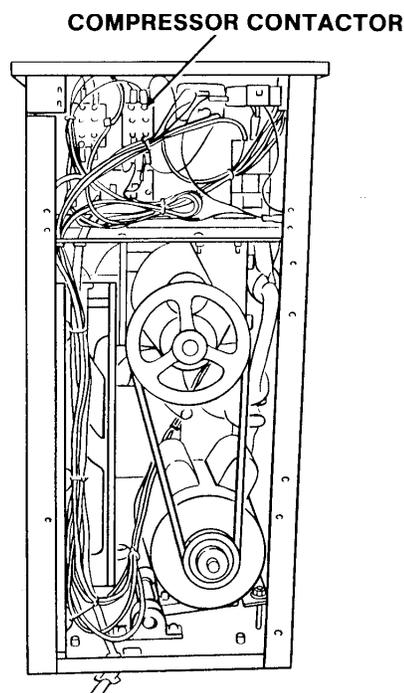

Figure 60. Fan Motor Connections
2. Locate the compressor contactor and identify the two fan motor wires. Then, remove the two wires (Figure 60).